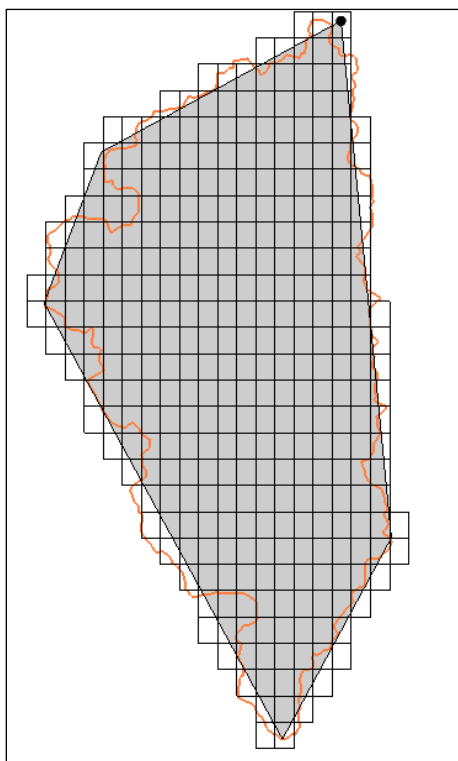

Figure 19 UGrid created in area of conceptual model
4. Accept the defaults for everything else and click **OK** to close the *Map → UGrid* dialog. The project should appear similar to Figure 19.